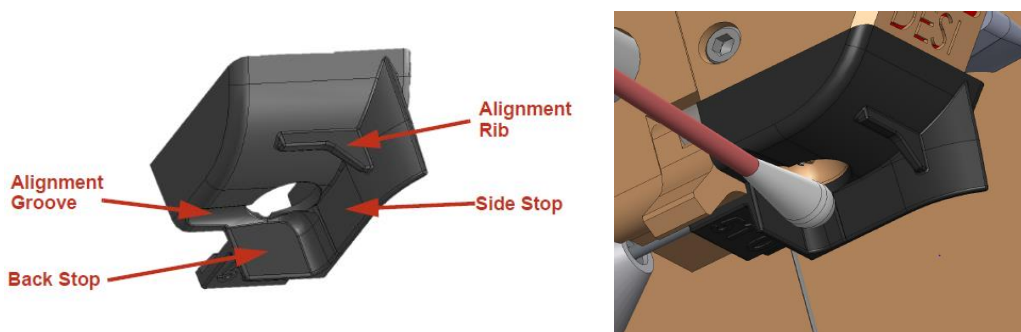

Figure 2.8 – Side presentation of swab
5. In order to present a sample from the side, position the swab so it is making contact with the side stop portion of the swab guide and placed in the alignment groove (Figure 2.8).